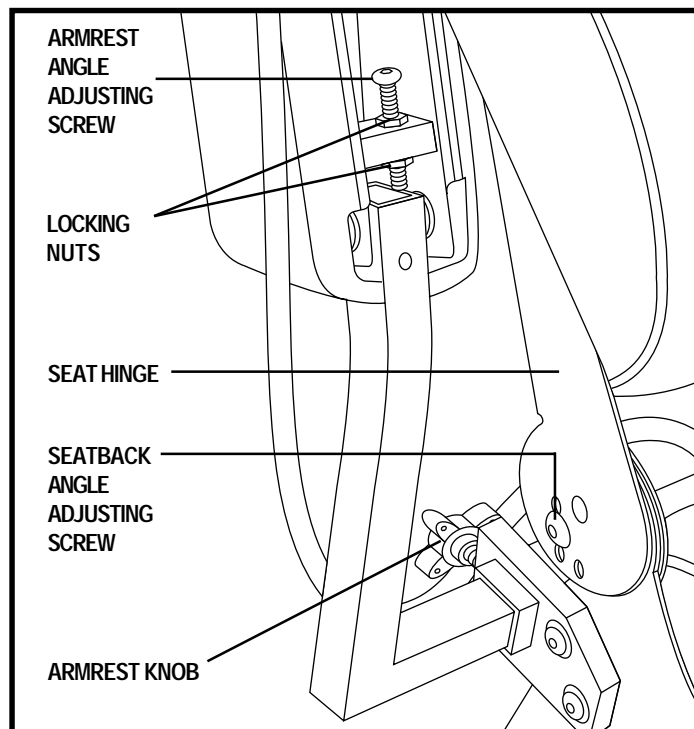

Figure 16. Seat and Armrest Adjustments
1. Remove the adjusting screw from each seat hinge. See figure 16.
1. Locate the two armrest knobs on each side of the armrest receiver bracket. See figure 16.
1. Lift the armrest straight up so that it is perpendicular to the floor. See figure 16.